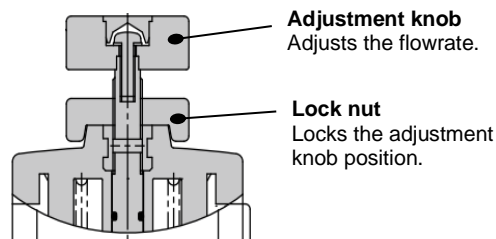

Fig.3 - Flow-rate adjustment
4.2 Flow rate adjustment (fig.3)